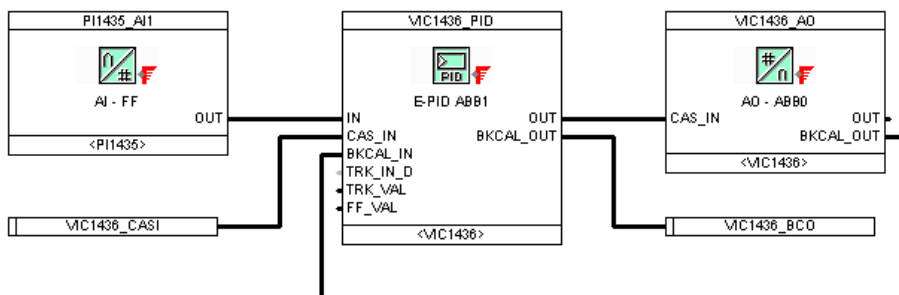

Figure 170. FF Application
- h. Insert another FF signals accordingly (see Figure 170).
9. Connect the function block pins as shown in Figure 170. To do this, drag the connecting lines with the left mouse button held down, the routing of the signal line is automatically defined by Fieldbus Builder FF.